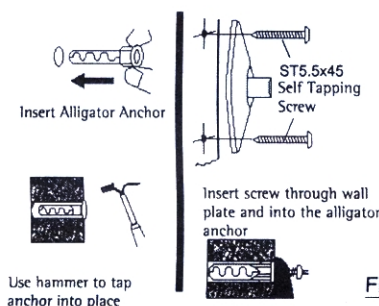

Figure 9
2. Drill holes in the solid concrete or hollow block using a 5/16" masonry bit. Once the holes are drilled, insert the #12-14 Alligator anchors (Figure 9) into the holes, making sure the anchor is flush with the surface of the wall (Figure 9).
3. With the wall anchors in place, mount the wall plate using the ST5.5x45 self tapping screws (Figure 9).